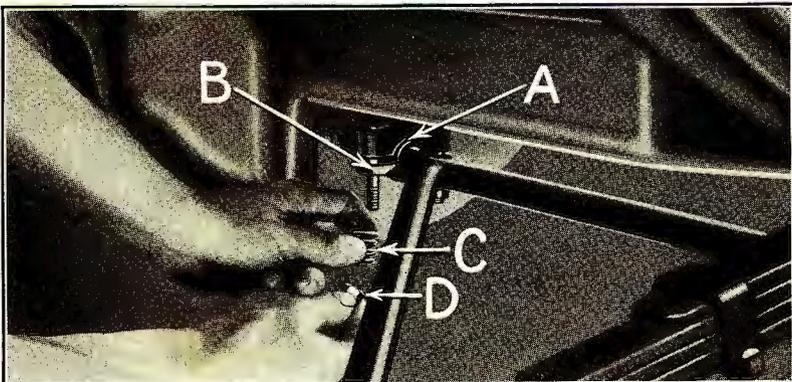

Fig. 88
- (b) Insert ball on radius rod into socket in crankcase (See "A" Fig. 88).